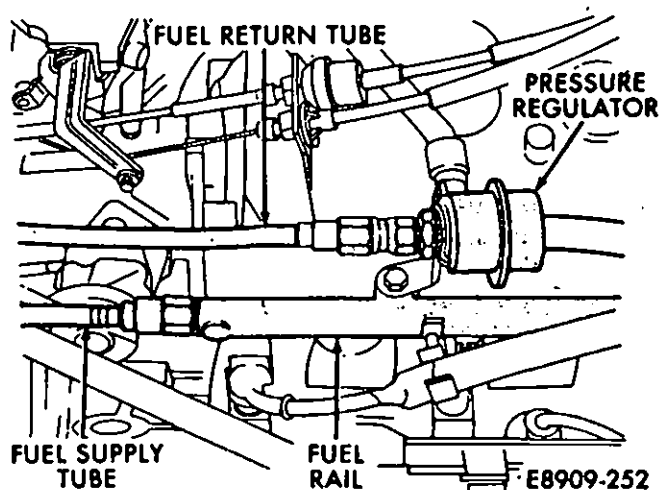
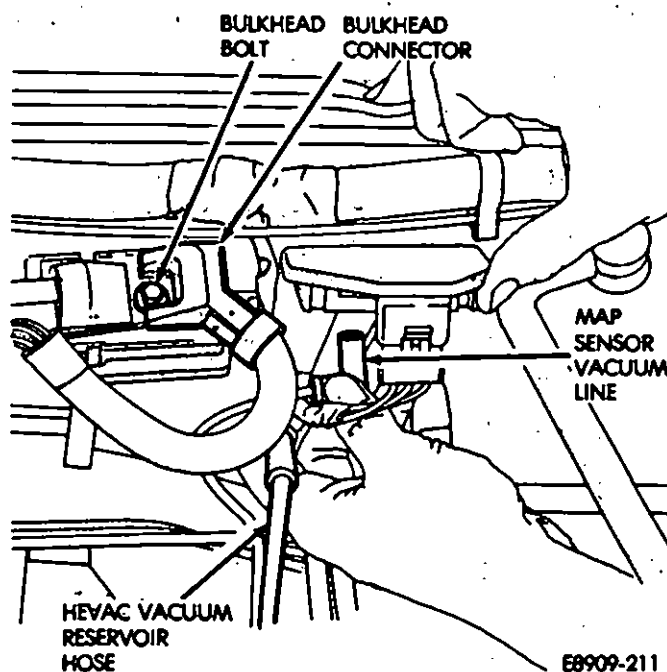

Fig. 30—Fuel Tubes/Regulator/Fuel Rail
Fig. 31—MAP Line/Hevac Hose/Bulkhead Connector
(35) Tighten the alternator locking bolt to 27 N·m (20 ft-lbs) torque.
(36) Install the splash shield under the alternator.
(37) Lower the vehicle.
(38) Connect the heater hoses at the dash panel.
(39) Connect the coolant bottle lower hose.
(40) Push the black fuel supply tube onto the fuel rail until a audible click is heard (Fig. 30). Pull back to ensure that the connector is locked in place.
(41) Push the grey fuel return tube onto fuel pressure regulator until an audible click is heard. Pull back to ensure that the connector is locked in place.
(42) Connect the MAP sensor vacuum hose and the Hevac vacuum reservoir hoses (Fig. 31).
(43) Connect the bulkhead connector and secure with the bulkhead bolts (Fig. 31). Connect the electrical connector at the dash panel.